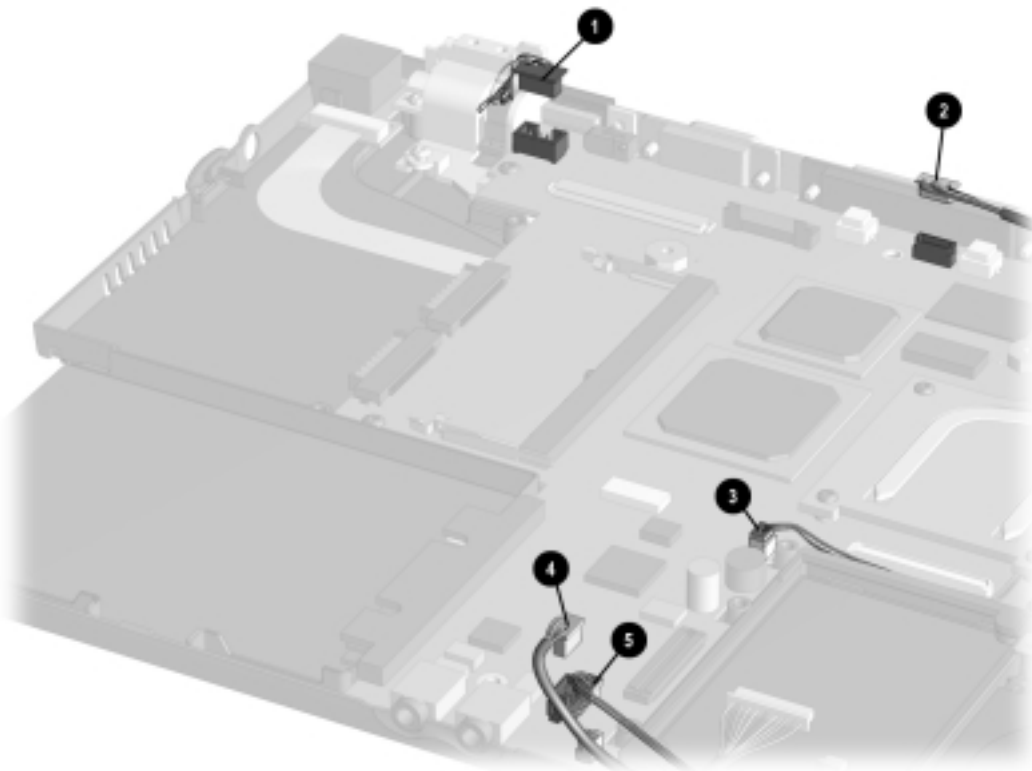

Figure 5-27. Disconnecting Cables from the System Board
10. Use the connector removal tool to disconnect the left battery terminal cable **1**, right battery cable **2**, fan cable **3**, LED cable **4**, and speaker cable **5** (Figure 5-27)